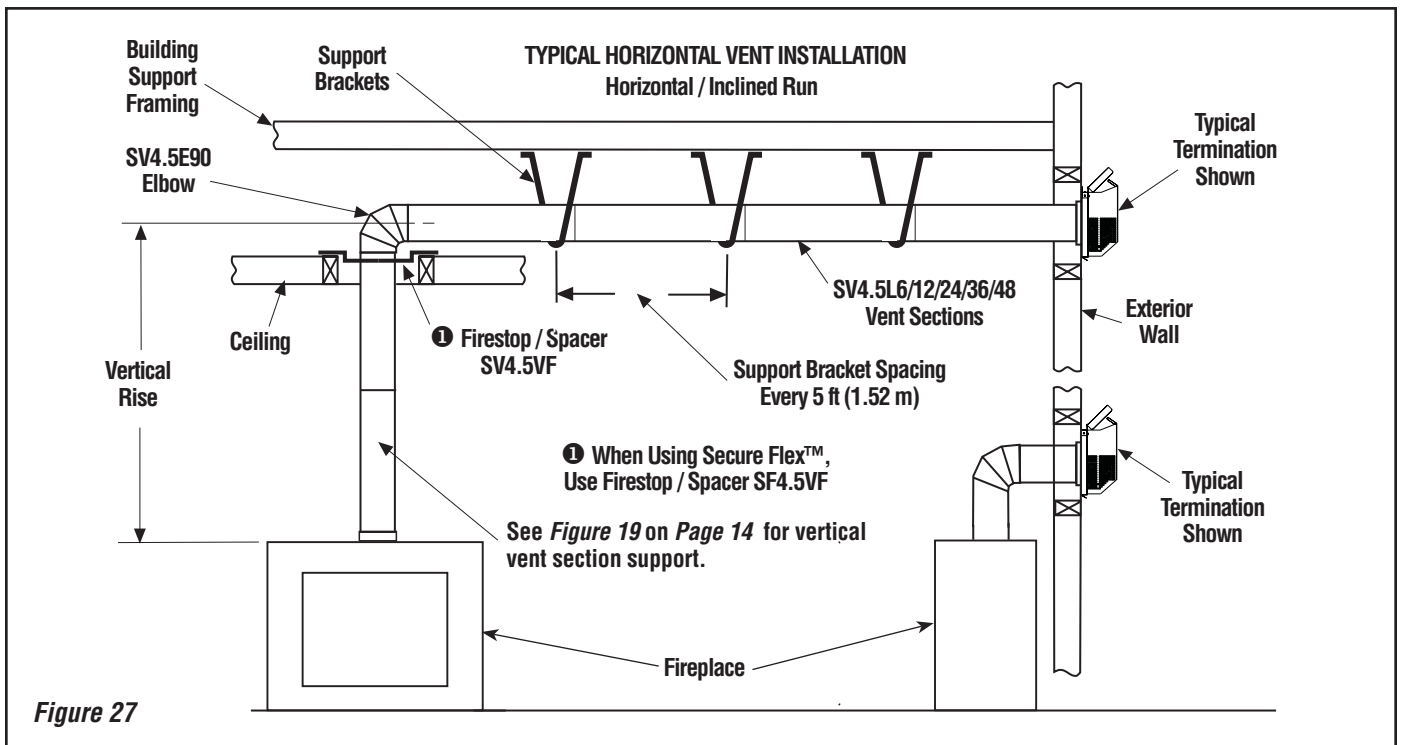

Figure 27
G. Continue installation of horizontal/inclined sections - Continue with the installation of the straight vent sections in horizontal/inclined run as described in **Step C**. Install support straps every 5 ft. (1.52 m) along horizontal/inclined vent runs using conventional plumber's tape. **See Page 18, Figure 27. It is very important that the horizontal/inclined run be maintained in a straight (no dips) and recommended to be in a slightly elevated plane, in a direction away from the fireplace of 1/4" rise per foot (20 mm per meter) which is ideal,** though rise per foot run ratios that are smaller are acceptable all the way down to at or near level. Use a carpenter's level to measure from a constant surface and adjust the support straps as necessary.
See **Figure 27** on **Page 18**, and **Figures 30 through 32** on **Pages 20 through 22** and their associated Horizontal Vent Tables which illustrate the various horizontal venting configurations that are possible for use with these appliances. **Secure Vent™** pipe applications are shown in these Figures; **Secure Flex** pipe may also be used. A Horizontal Vent Table summarizes each system's minimum and maximum vertical and horizontal length values that can be used to design and install the vent components in a variety of applications.
See **Figure 27**. **It is very important that the horizontal/inclined run be maintained in a straight (no dips) and recommended to be in a slightly elevated plane, in a direction away from the fireplace of 1/4" rise per foot (20 mm per meter) which is ideal**, though rise per foot run ratios that are smaller are acceptable all the way down to at or near level.